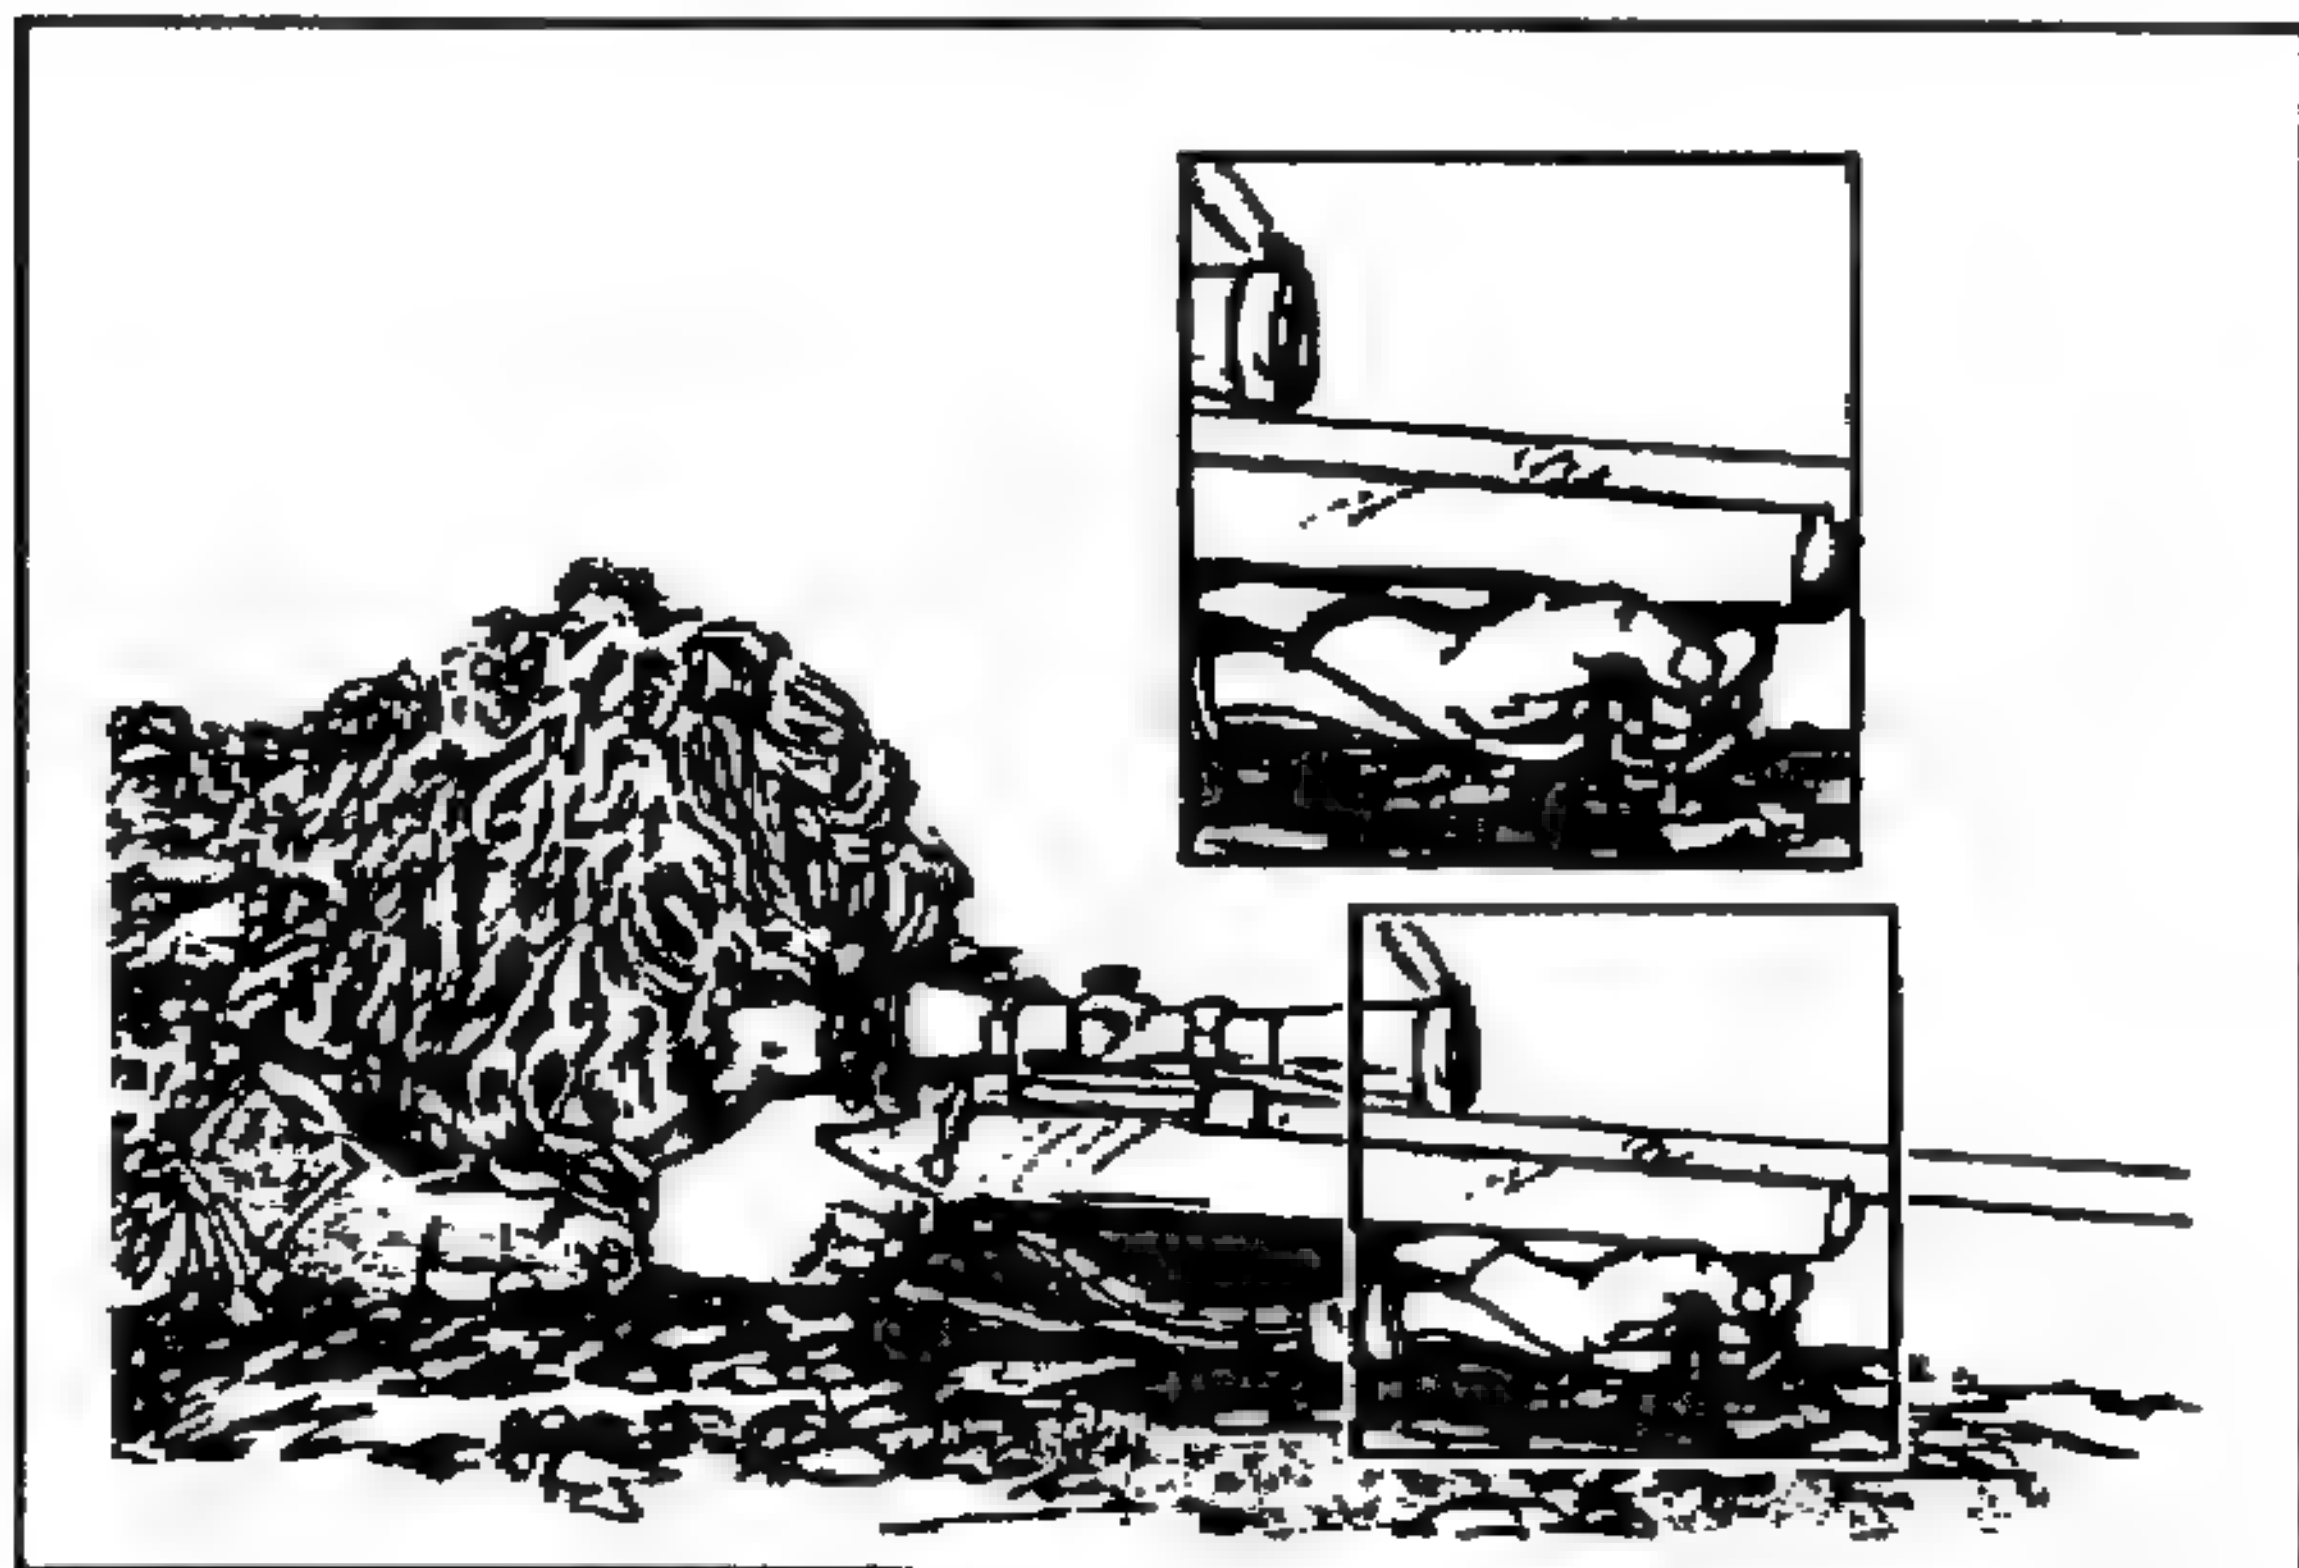

Figure 3-8. Hawkins position.
(6) **Hawkins position.** The Hawkins position (Figure 3-8) is a variation of the prone unsupported position. The sniper uses it when firing from a low bank or a depression in the ground, over a roof, or so forth. It cannot be used on level ground since the muzzle cannot be raised high enough to aim at the target. It is a low-profile position with excellent stability and aids concealment. To assume this position, the sniper uses the weapon's sling and proceeds as follows: